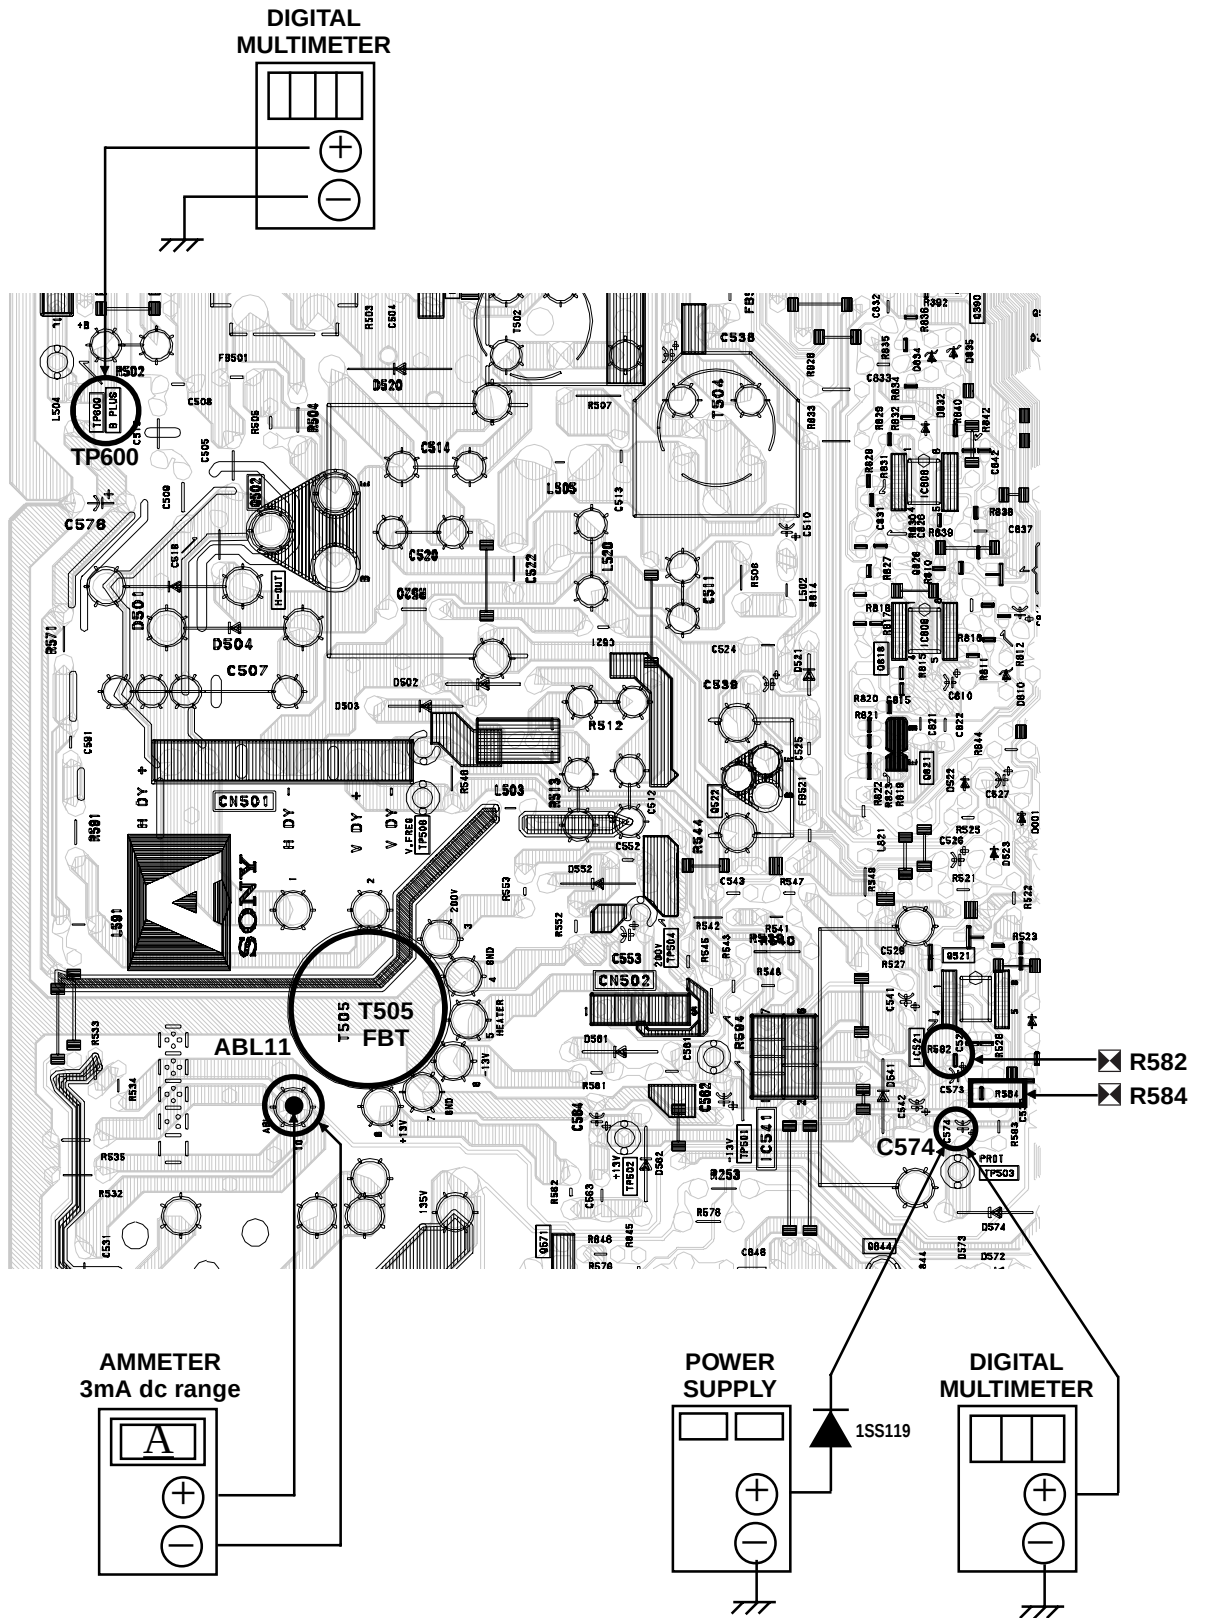

Figure 1
- 1. Connect the current meter between Pin 11 of the FBT (T505) and the PWB land where Pin 11 would normally attach. (See Figure 1 on the next page.)
- 4. Connect the digital voltmeter and the DC power supply via diode 1SS119 to C574 (+) and ground. (See Figure 1 on the next page.)